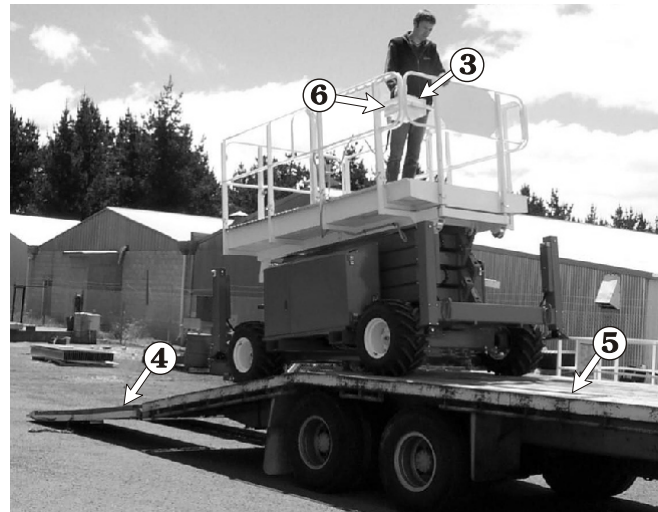

Figure 10.4
6. Use the joystick controller ③ to slowly drive the S3970RT / S3370RT / S2770RT straight onto the ramp ④ and trailer ⑤ (see Figure 10.4).
7. When the S3970RT / S3370RT / S2770RT is in place on the trailer, push the **Emergency Stop** switch ⑥ (see Figure 10.4) in (OFF) at the platform control box.